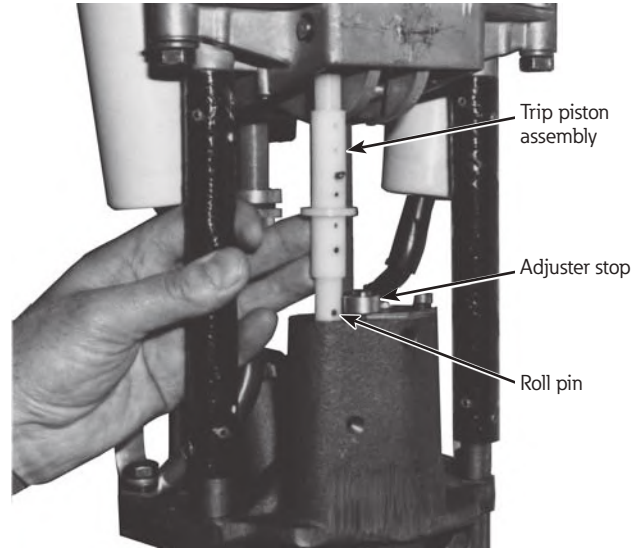
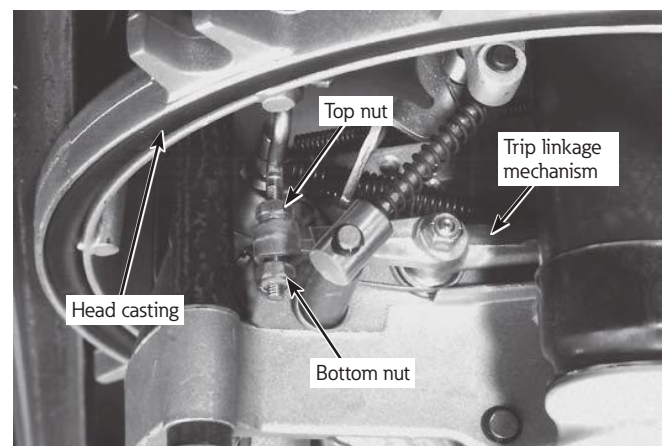

Figure 7. Trip linkage adjustment
Figure 8. Trip point adjustment
3. Referring to Figure 7, grasp the trip piston assembly and lift it until the recloser trips; then observe the roll pin that secures the trip piston to the trip piston adjuster assembly. Note the location of the roll pin relative to the trip-adjuster stop (i.e., the spacer), as shown in Figure 7.
- **If the recloser trips too soon**, the roll pin is below the desired height; in that case, turn the self-locking nuts counterclockwise (downward, or off the recloser). (See Figure 7 and Figure 8.)
- b. If the configuration is correct, adjust the trip linkage as appropriate (refer to Figure 8):